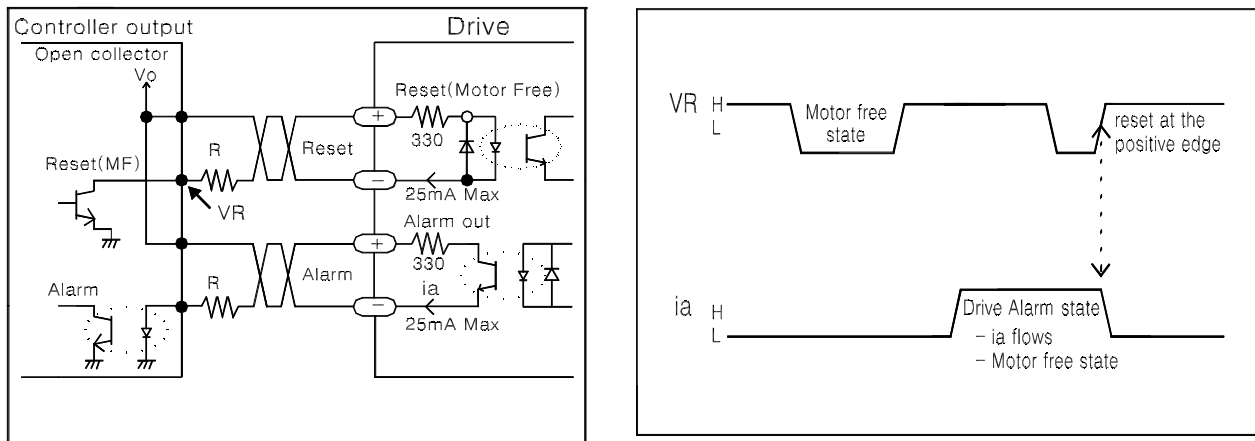

Fig.8 Drive in/out signal for control
- The drive has one dedicated hardware fault output. The output is an optically isolated open collector transistor. The Fig.8 is a schematic showing the optically isolated fault output. Refer to Fig.8, the alarm output transistor is normally cut-off state. The transistor turns on when alarm occurs. The following conditions will cause alarm output to turn on:
- Reset input can be used Motor free signal input. As shown in Fig.8, the drive alarm is reset at the negative falling edge of reset output of controller and the drive cuts off motor power in the low state(input photodiode of reset input of drive is turn on state)of reset output of controller.